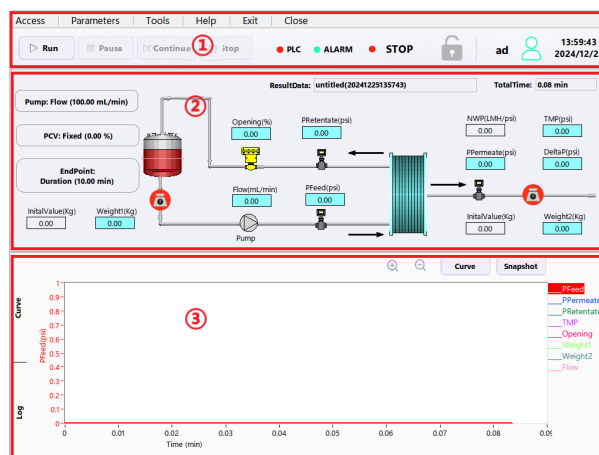

Figure 7. Main interface
The main interface consists of 3 parts, ① function control area, ② process control area, and ③ status display area, as shown in Figure 7 below.